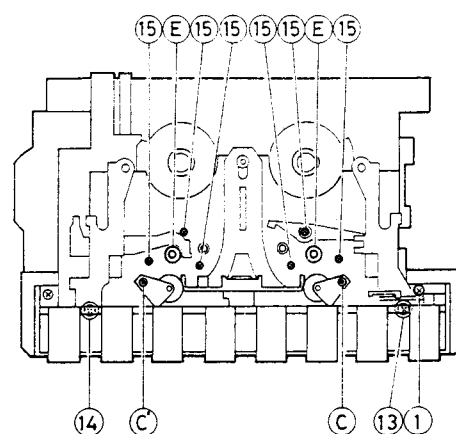

Fig. 3-7 Top view
- 1) Remove two screws ⑫ on the rear panel.
- 2) Remove a screw ⑬ securing the pause button lever, and remove the pause button lever's stud from the lever. After the above procedure, press the button lever to remove it. (See Fig. 3-7.)
- 3) Remove a screw ⑭ securing the reverse mode button lever and remove a stud from the button lever. Then press the lever to remove it. (See Fig. 3-7.)
- 4) Disengage springs at seven points ⑧, ⑨, ⑪, ⑫, ⑬, ⑭ and ⑮ shown in the figure.
- 5) Remove six screws ⑮ securing the capstan sleeve. (See Fig. 3-7.)